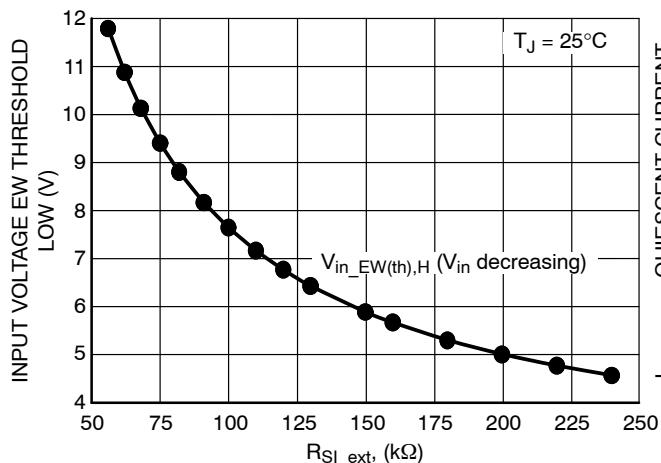
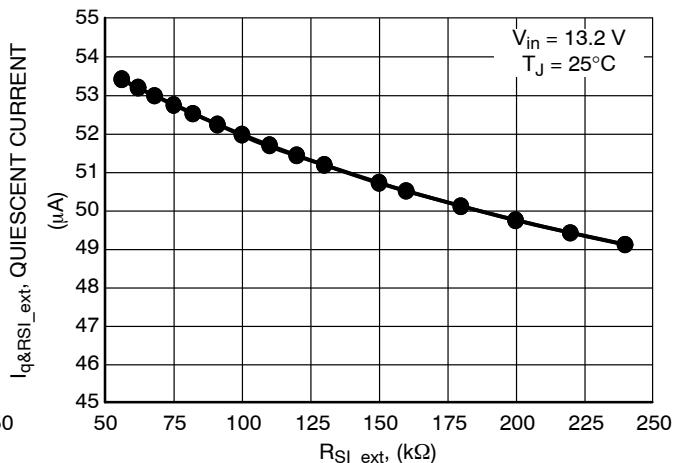

Figure 22. Input Voltage EW Threshold Low vs.
Figure 23. Quiescent Current vs. $R_{SI_{ext}}$
13. I_q for Preset EW Threshold Options is measured when R_{SI_ext} is not used. For typical values of I_q vs R_{SI_ext} see Figure 23.
Practically only preset options above 4.5 V can be used without R_{SI_ext} due to minimum operating input voltage value limitation. For other preset options the trip point has to be adjusted externally using R_{SI_ext} resistor connected between input monitor SI and GND (see Figure 1). For other preset options R_{SI_ext} has to be used to achieve $V_{in_EW(th)} > 5.5$ V (minimum operating input voltage value). The value for R_{SI_ext} is recommended to be selected in range from 50 kΩ to 250 kΩ and the trip point can be shifted according to Figure 22. The higher is R_{SI_ext} the lower is overall Quiescent Current of the application (see Figure 23). General formulas for calculation of $V_{in_EW(th)Low}$ or R_{SI_ext} for selected preset Early Warning options are described by Equations 1 and 2.